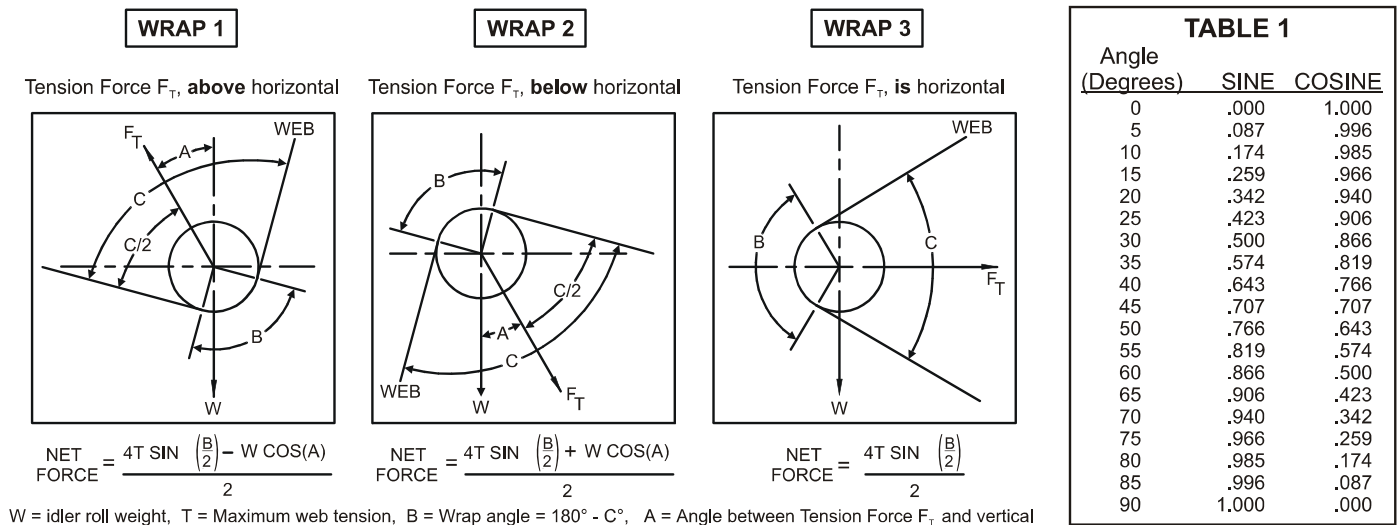

Figure 6 - LOAD RATING SELECTION FORMULAS
The Model C Transducer is available in several standard load ratings, ranging from 10 lbs. to 800 lbs. The correct rating for any particular application depends on web tension, transducer roll weight, wrap angle, and the direction of the tension force on the transducer roll. Figure 6 below contains mathematical formulas which use these factors to determine the correct load rating.
Refer to Figure 6. Select the appropriate wrap configuration as determined by the direction of the tension force (above, below or on horizontal). Compute the Net Force, using the formula below the wrap diagram.
- B. Increase angle (A). (See Figure 6).